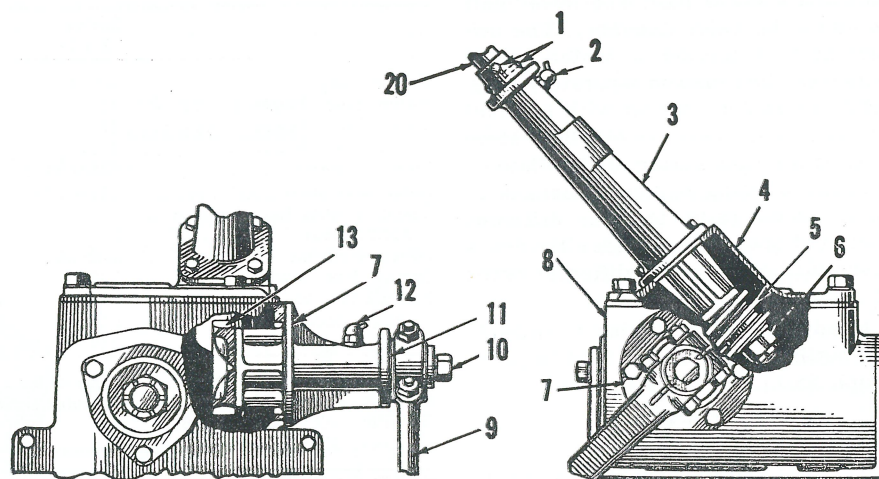

Fig. IH14—Model 1020 steering gear assembly.
On this model the steering gear is of the worm and worm wheel type mounted in the top of transmission case and cover. The need and procedure for removal, overhaul and reinstallation is self evident after an examination of the unit and reference to Fig. IH14.
15. ADJUST WORM SHAFT END PLAY. This adjustment is controlled by worm retaining nut (6—Fig. IH14). To adjust remove steering shaft (20), worm (5) and column (3) as an assembly. Tighten nut (6) sufficiently to remove all end play and yet permit shaft to rotate freely. Relock nut and reinstall assembly.
16. ADJUST WORM WHEEL END PLAY. End play is controlled by position of Pitman arm (9) on worm wheel shaft (13). To adjust, loosen bolts that lock steering gear arm to shaft and
17. ADJUST GEAR MESH. Backlash or mesh adjustment is controlled by the eccentrically bored steering shaft bearing (7—Fig. IH14). Disconnect the drag link before adjusting backlash. To reduce backlash remove bearing-to-housing cap screws and rotate bearing until backlash is removed but not so far as to cause binding at any point in rotation of steering wheel. Reinstall cap screws.